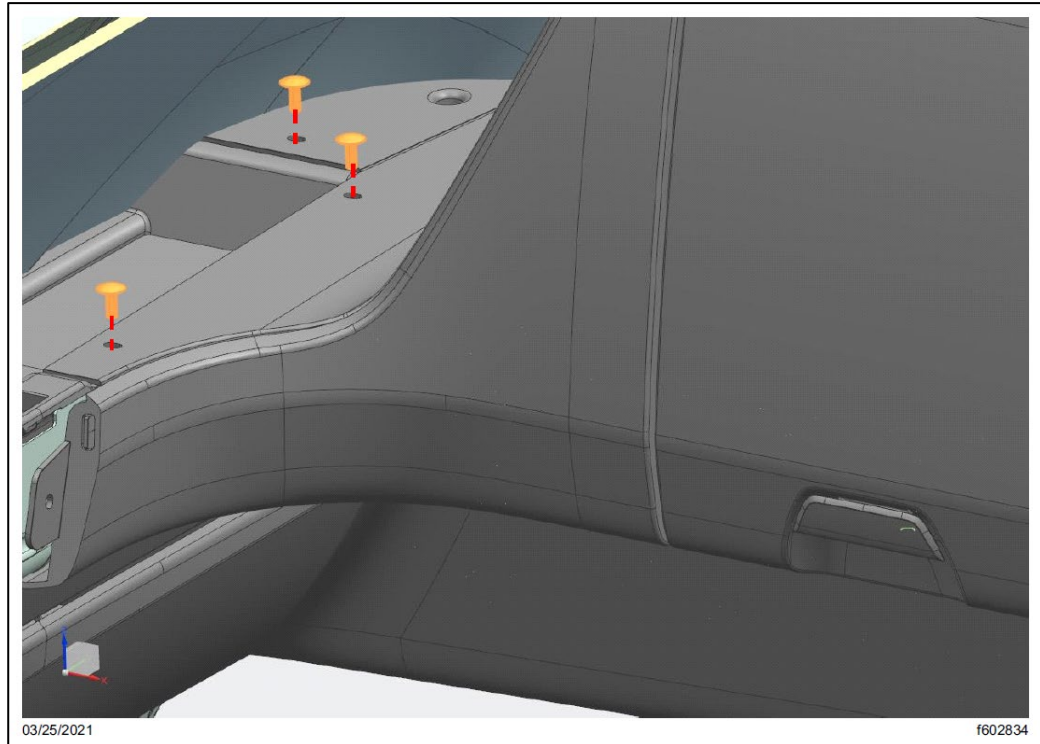

Fig. 51, Fasteners That Attach the RH Overhead Storage Assembly to the Storage Shelf Flanges
- 12.5. Install the three fasteners that attach the RH overhead storage assembly to the storage shelf flanges. See Fig. 51. Tighten the fasteners 11 to 13 lbf.ft (14 to 18 N.m).